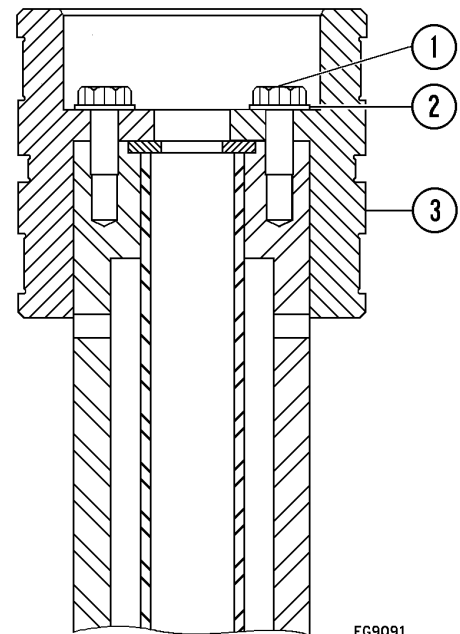

FIGURE 8-22. 3rd STAGE PISTON
12. Make certain threads on capscrews (1, Figure 8-22) and threads in rod are clean and dry (free of oil and solvent).